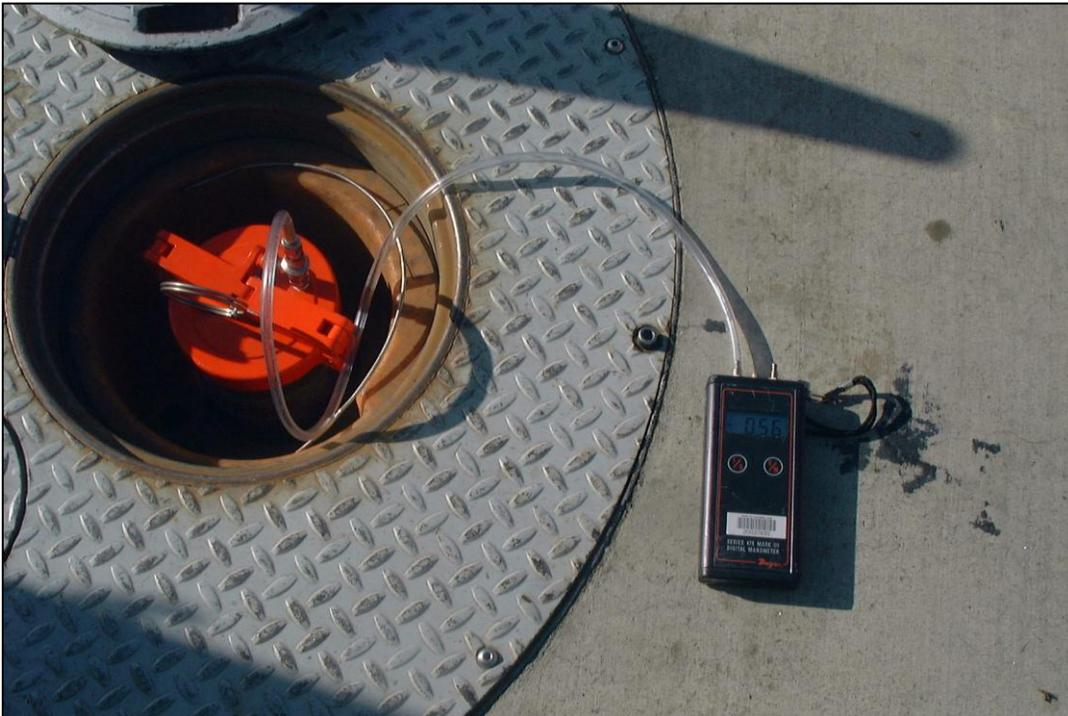

Figure10-3
Determining Ambient Pressure - The Vapor Pressure Sensor is subjected to ambient pressure by turning the Vapor Pressure Sensor valve, which is located on the vent stack or in the dispenser closest to the tanks, to the atmospheric valve position as shown in Figure 10-3. This test can be performed while product is being dispensed into motor vehicles.
- 9.2 Remove the cap from the ambient reference port of the Vapor Pressure Sensor valve and open the valve to atmosphere by turning it 90 degrees so that the flow arrows point to both the Vapor Pressure Sensor sensing port and the ambient reference port (see Figure 10-3).
- 9.5 Replace the cap on the ambient reference port of the Vapor Pressure Sensor valve. Restore the Vapor Pressure Sensor valve by turning it 90 degrees so that the flow arrows point to both the Vapor Pressure Sensor sensing port and the UST vapor space sensing line (ref. Figure 10-3).